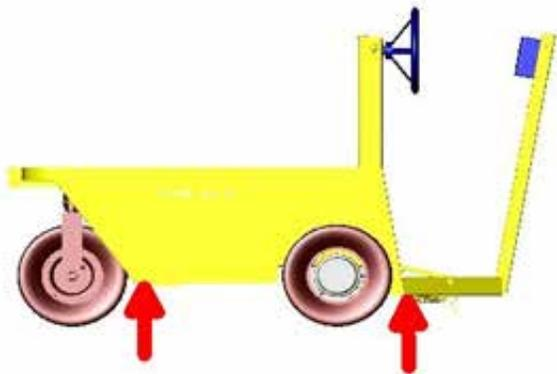

Figure 13: Position the jacks or jack stands
Lifting the front: To remove a front wheel or axle: First chock the front and rear of the rear tires. Loosen the front wheel hardware. Position the jack in the location indicated in Figure 13 below and carefully raise the front of the vehicle, taking care that the rear wheels do not move. Position jack stands in the locations indicated and slowly lower the vehicle to rest on the jack stands and test the stability of the vehicle.
1. Position the jack in the proper position (Figure 13)